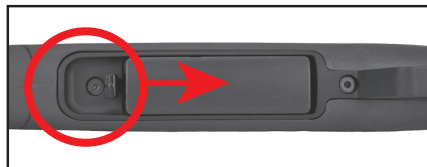

Figure 16.1
2. If the magazine is currently installed in the firearm, press the **Magazine Release** either forward or rearward depending on model – see Figures 16.1 and 16.2 – and remove the **Magazine** from the firearm.
2. Press the **Magazine Release** either forward or rearward depending on model – see Figures 16.1 and 16.2 in section 3.1 – and remove the **Magazine** from the firearm.